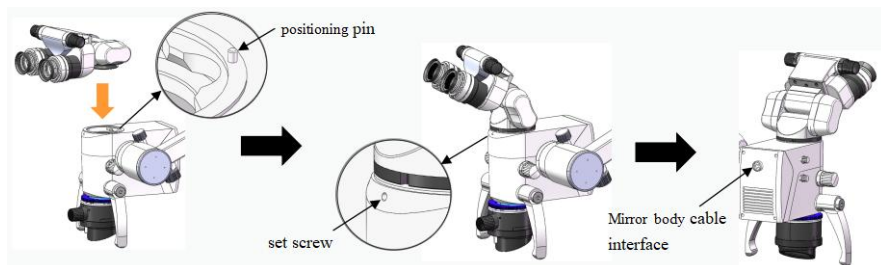

Figure 11.3.2 Mirror Tube Assembly
- 2) Take out the binocular lens tube, loosen the set screw [31] on the upper part of the lens body, and remove the dust cover. The  indicates the position of the set screw. Insert the mirror body as shown in Figure 11.3.2. When inserting, the positioning groove on the bottom surface of the eyepiece cylinder must match the positioning pin on the mirror body, and the installation surface must be flat. Then, use the included No. 2 Allen wrench to tighten the set screw on the upper part of the mirror body. Finally, insert the cable male connector on the cross arm component into the cable interface at the rear of the mirror body.